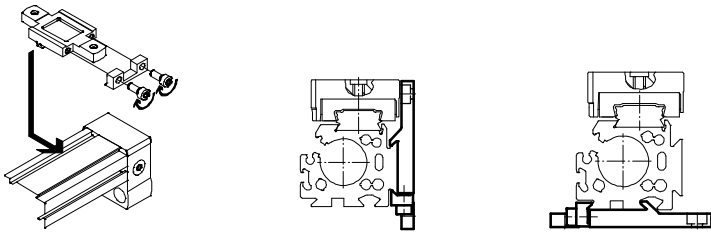

Fig. 7
- Fasten the profile fastenings on the DGC → Fig. 7.